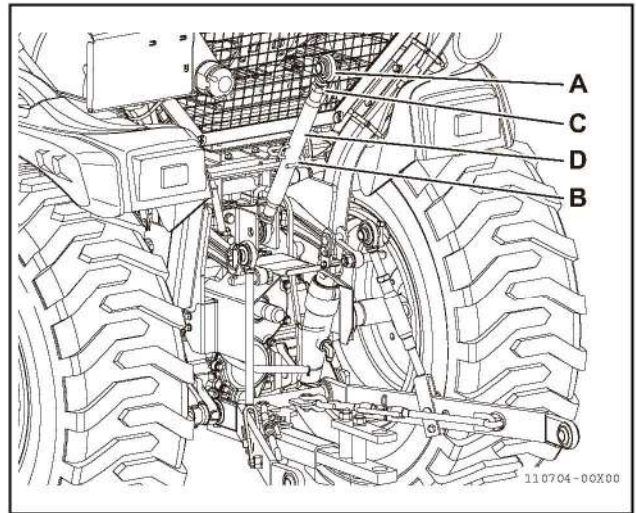

Fig 10-6
- (A) Top link
- (B) Lower links
3. Relieve the tension on the top link (Fig 10-6, A) by lowering the implement to the ground.
4. Loosen the locknut (Fig 10-6, C). Rotate the top link body to lengthen or shorten the top link, as required (Fig 10-6, D).